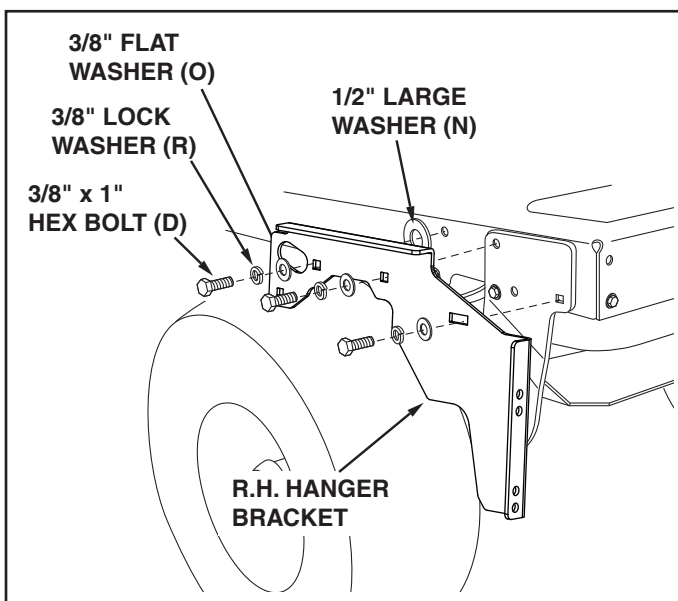

FIGURE 6
STEP 2: (SEE FIGURE 6)
- Attach the R.H. hanger bracket to the two front empty holes on the right side of the tractor frame using two new 3/8" x 1" hex bolts (D), 3/8" lock washers (R), and 3/8" flat washers (O) as shown. For the rear hole, use a 3/8" x 1" hex bolt (D), 3/8" lock washer (R) and 3/8" flat washer (O) with a large 1/2" washer (N) placed between the hanger bracket and the tractor frame. **Tighten.** Repeat for the left side.
- Assemble the two angle lock bars together as shown in figure 6, so that all holes are aligned. Use one 3/8" x 1-1/4" carriage bolt (E) and one 3/8" nylock nut (M). Be sure to insert bolt from side indicated. **Do not tighten at this time.**